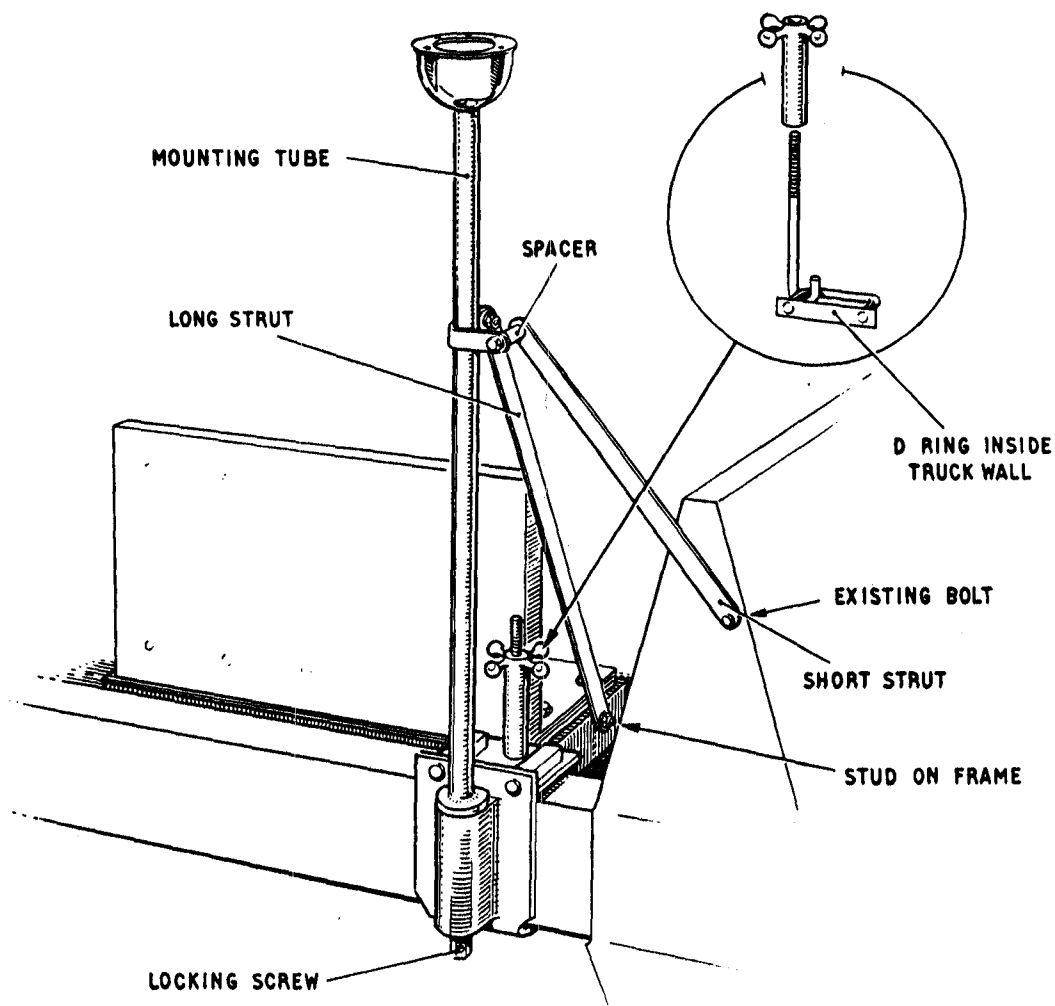

FIG. 2 FITTING THE ANTENNA BRACKET
13. If the detachable body sides have been removed from the truck, use the short antenna bracket provided in the adapter kit. See fig. 2. Fit it on the same side as the radio as follows: Hook the bottom of the bracket under the truck side wall, position the loosely rivetted top flap over the top of the wall, engage the clamping hook in the adjacent 'D' ring bolted to the wall for lashing down cargo. Tighten the nut firmly to hold the bracket.
16. Bolt the two bracing struts to the lugs on the tube, the long one across the vehicle and the short one to the front. Note that a 15 mm ($\frac{1}{2}$ -in.) spacer has to be fitted between the top of the short strut and the lug on the tube to keep the strut in line with the side of the truck. See fig. 2. Then fasten the long strut to the stud on the side of the frame which holds the radio and the short strut to an existing bolt on the side of the truck. Screws, nuts, spring washers, flat washers, etc., are provided with the mounting.